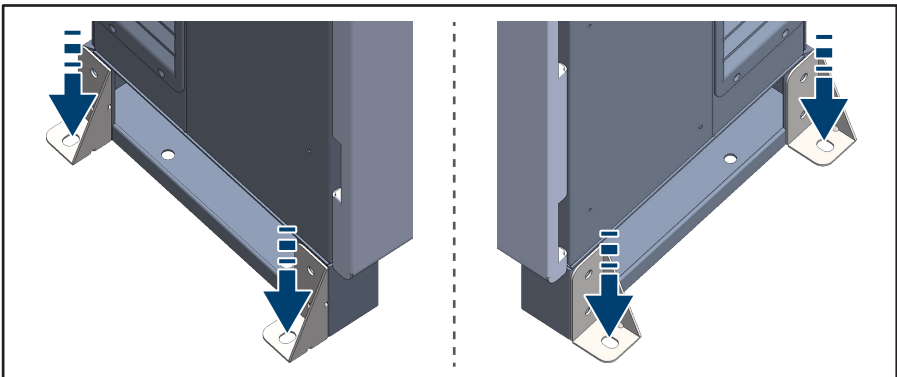

Figure 3-13: To secure inverter grounded brackets to ground-mounting base
2. The grounded base horizontally (perpendicular to the floor), and mark required mounting hole locations per **Figure 3-13**.
4. Secure the grounded brackets on the grounded base with 4 M10 screws per **Figure 3-13**.